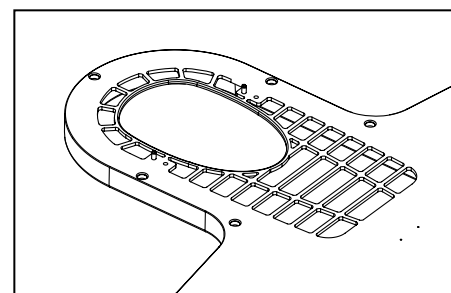

Fig. 3
3. Be sure that the pins are firmly tightened before use (Fig. 3).